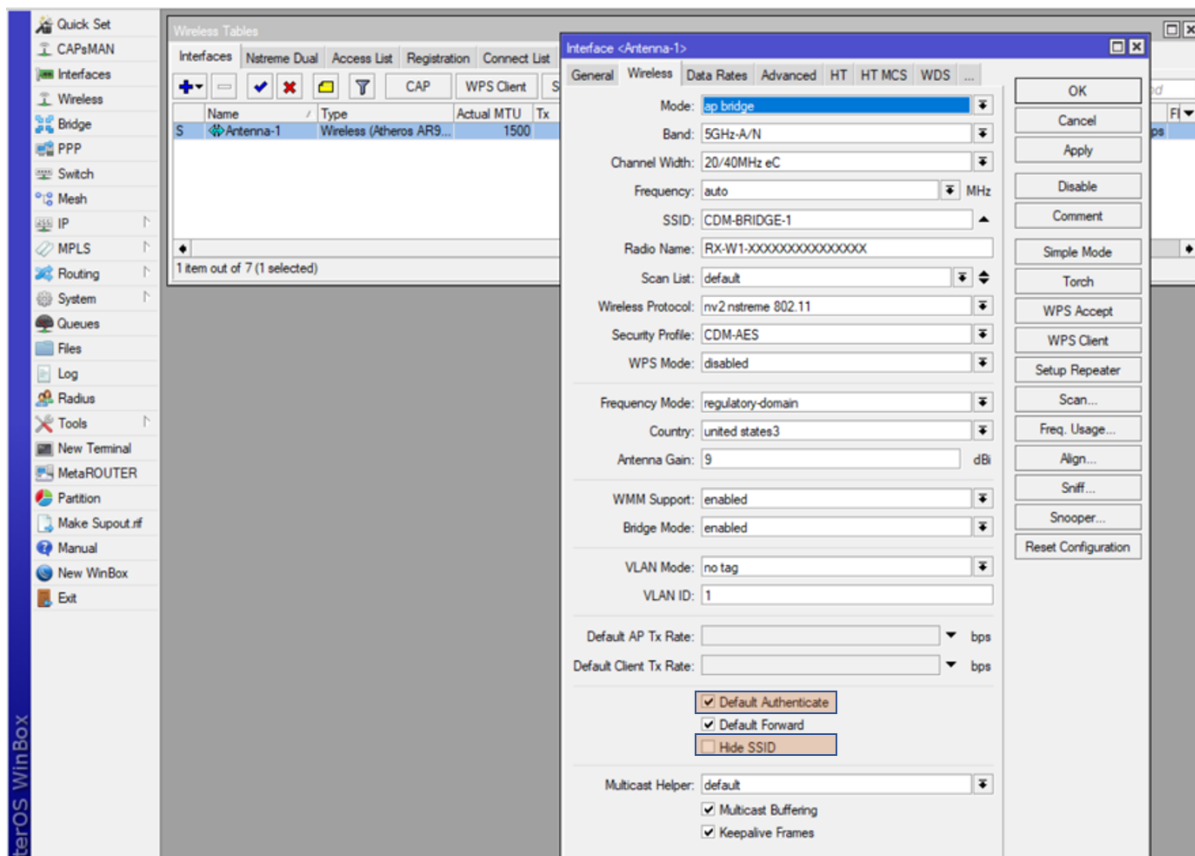

Figure 11. Wireless Interface Properties Dialog Box – Wireless Tab
7. Select **Wireless** tab as pictured in *Figure 11* below.
6. The **Winbox Loader** dialog box is displayed as shown in figure 11 below. Select the "Neighbors" tab and Click on the "Refresh" button to display available wireless radios. Select the MAC or IP address and Click on the "Connect" button for the device you want to log into. Use either the MAC or IP address and Fill in the **Login** and **Password** fields with information provided by your system integrator. The factory default value for **Login** is "admin" and by default there is no password defined. Click **Connect**.